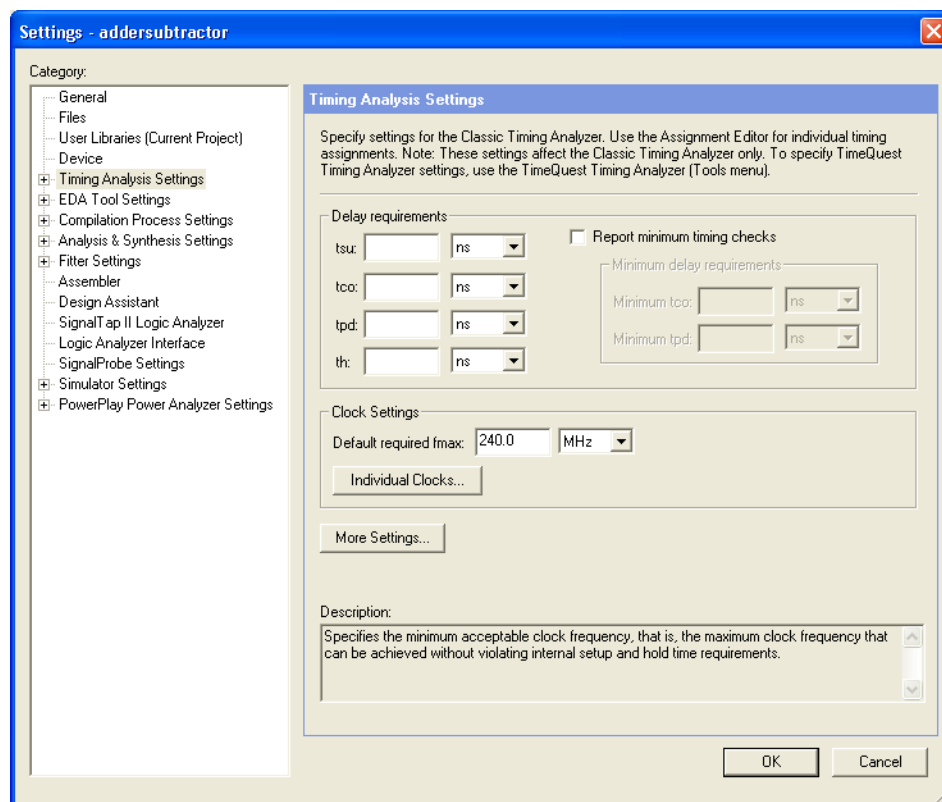

Figure 31: Setting the timing constraints.
1. Click **Assignments > Timing Analysis Settings** to reach the window in Figure 31. Here, it is possible to indicate the required values of various design parameters and the desired performance of the circuit. Consider the f_{max} indicator. So far, we have not specified the desired value of f_{max} . The compilation in Section 4 produced the f_{max} of 217.63 MHz. Suppose that we need a circuit that can operate at a clock frequency of 240 MHz. Specify this value as the default required f_{max} as shown in Figure 31, and click OK. Note that other parameters, such as t_{su} , t_{co} , and t_h can be specified in this window.